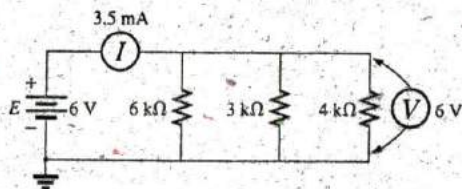

FIG. 6.114
45. Based on the measurements of Fig. 6.114, determine whether the network is operating correctly. If not, determine why.